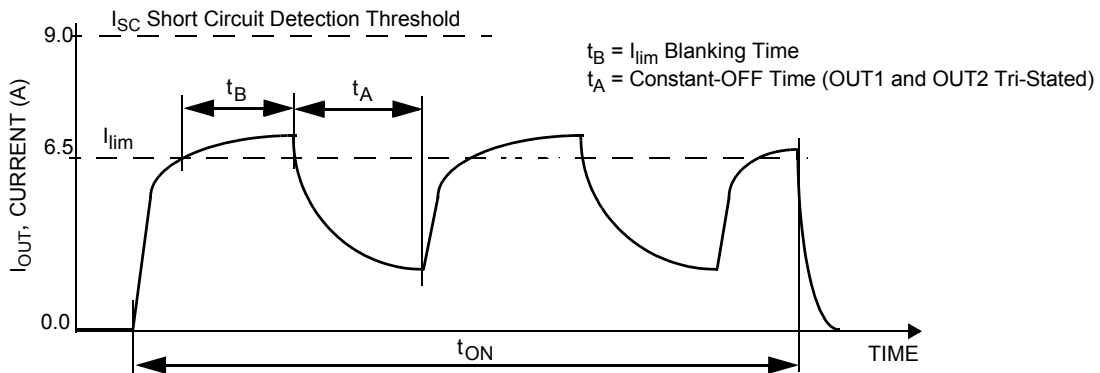
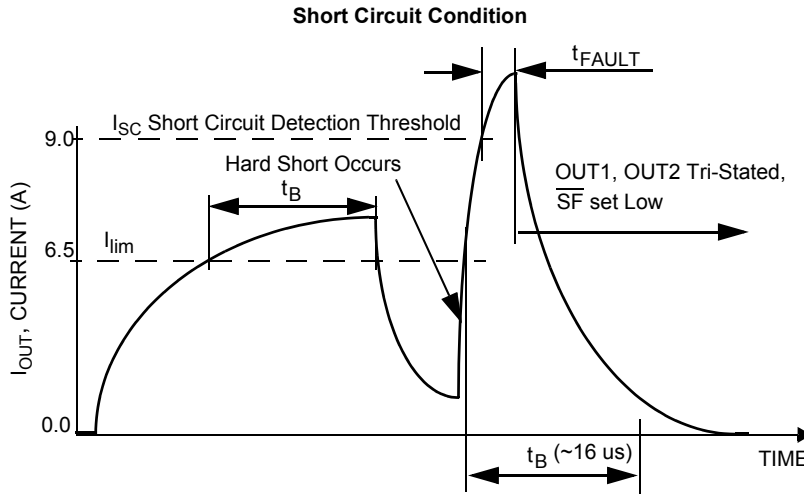
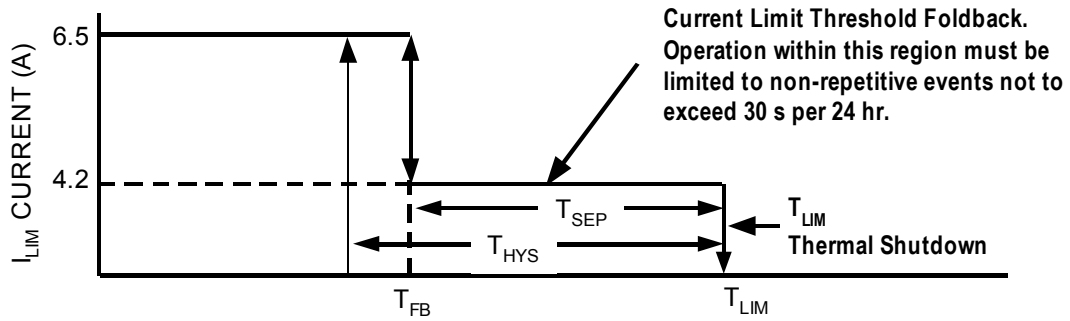

Figure 7. Current Limit Blanking Time and Constant-OFF Time
Figure 8. Short Circuit Detection Turn-OFF Time t_{FAULT}
Figure 9. Output Current Limiting Foldback Region
| Output Current Regulation Threshold $T_J < T_{FB}$ $T_J \geq T_{FB}$ (Fold back Region - see Figure 9 and Figure 11) ⁽¹⁴⁾ | I_{LIM} | 5.2 | 6.5 | 8.0 | A |
28. Load currents ramping up to the current regulation threshold become limited at the I_{LIM} value (see Figure 7). The short circuit currents possess a di/dt that ramps up to the I_{SCH} or I_{SCL} threshold during the I_{LIM} blanking time, registering as a short circuit event detection and causing the shutdown circuitry to force the output into an immediate tri-state latch-OFF (see Figure 8). Operation in Current Limit mode may cause junction temperatures to rise. Junction temperatures above $\sim 160^\circ\text{C}$ will cause the output current limit threshold to “fold back”, or decrease, until $\sim 175^\circ\text{C}$ is reached, after which the T_{LIM} thermal latch-OFF will occur. Permissible operation within this fold back region is limited to non-repetitive transient events of duration not to exceed 30 seconds (see Figure 9).